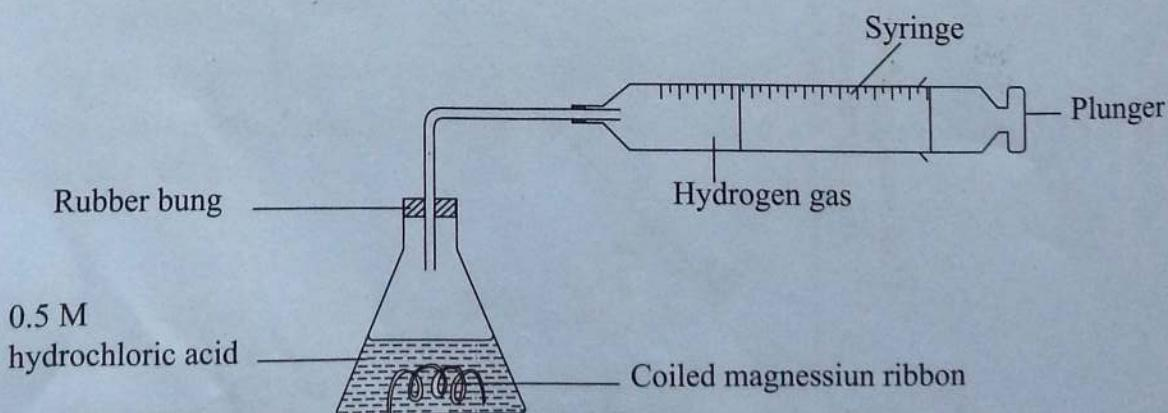

Fig. 1.5: Apparatus to investigate effect of temperature on reaction rate
3. Arrange the apparatus as in Fig. 1.5 below.